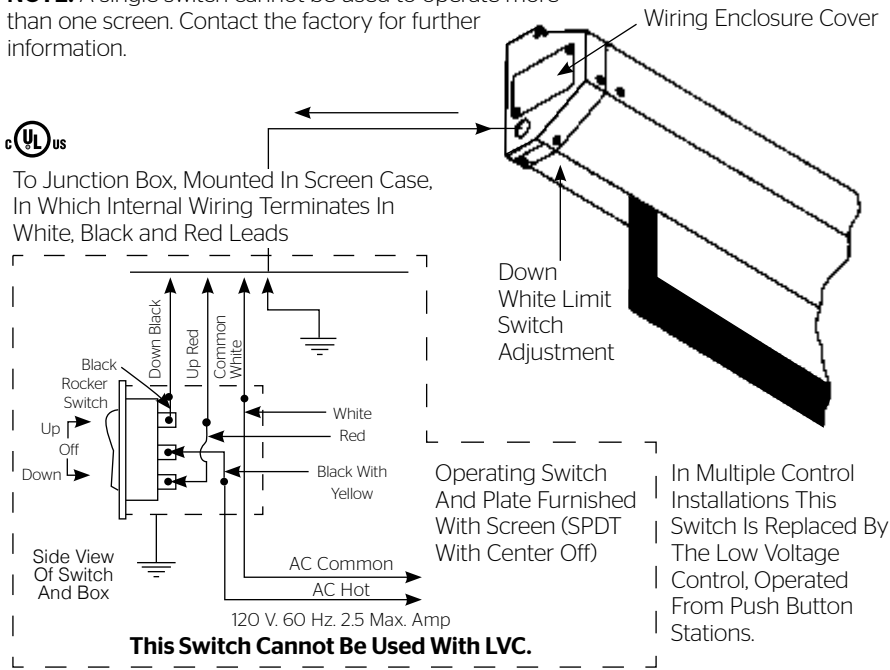

Figure 6
2. Locate small 3-position switch on back of wall switch. (See Figure 6)